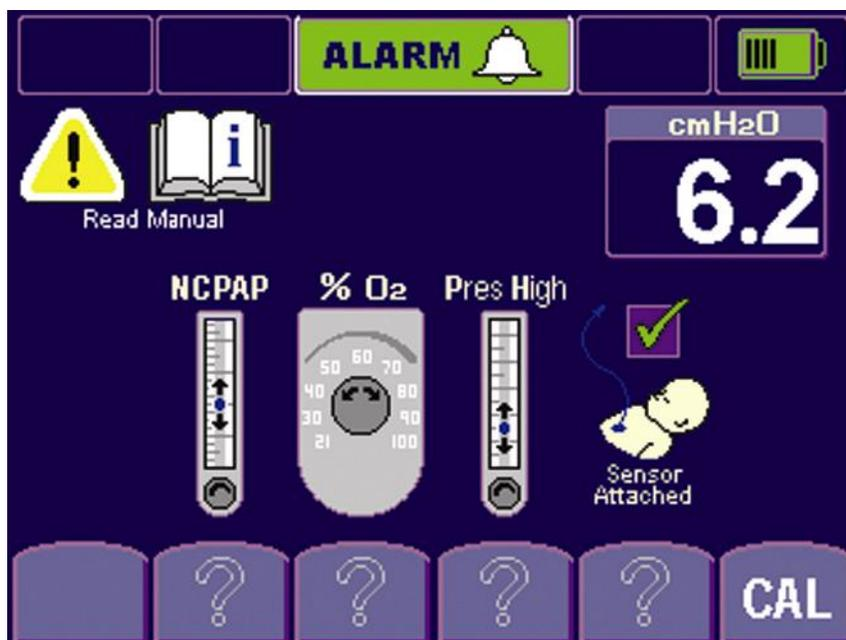

Figure 1
4. Set the NCPAP (Low Pressure) Flow Meter to about 8 LPM then push the softkey button below the left flowmeter icon (Figure 1).